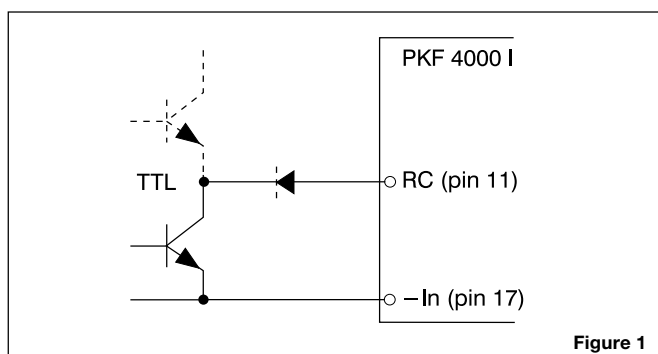

Figure 1
Turn-on or turn-off can be realized by using the RC-pin. Normal operation is achieved if pin 11 is open (NC). If pin 11 is connected to pin 17 the power module turns off. To ensure safe turn-off the voltage difference between pin 11 and 17 shall be less than 1.0 V. RC is TTL open collector compatible output with a sink capacity >100 μA (see fig. 1).